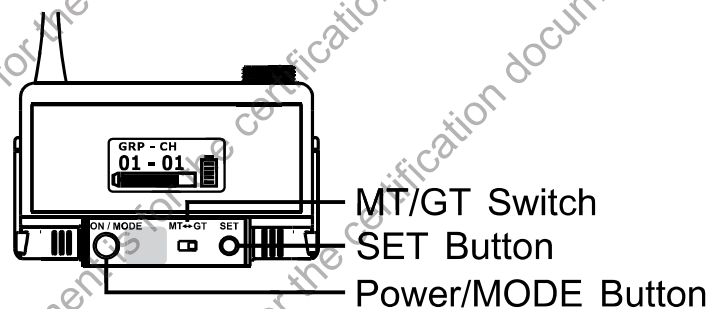

Fig. 5
(A) Press and hold Power button for 2 seconds to turn on; press and hold Power button for 5 seconds to turn off. The LCD panel glows when power on. Fig. 5, 6
3. Press SET button, the parameter blinks, press SET button again to change the parameter. Fig. 5
4. MT/GT Switch. Fig. 5
- (A) MT: low input impedance. It is recommended for microphone connection.
- (B) GT: high input impedance. It is recommended for guitar connection.